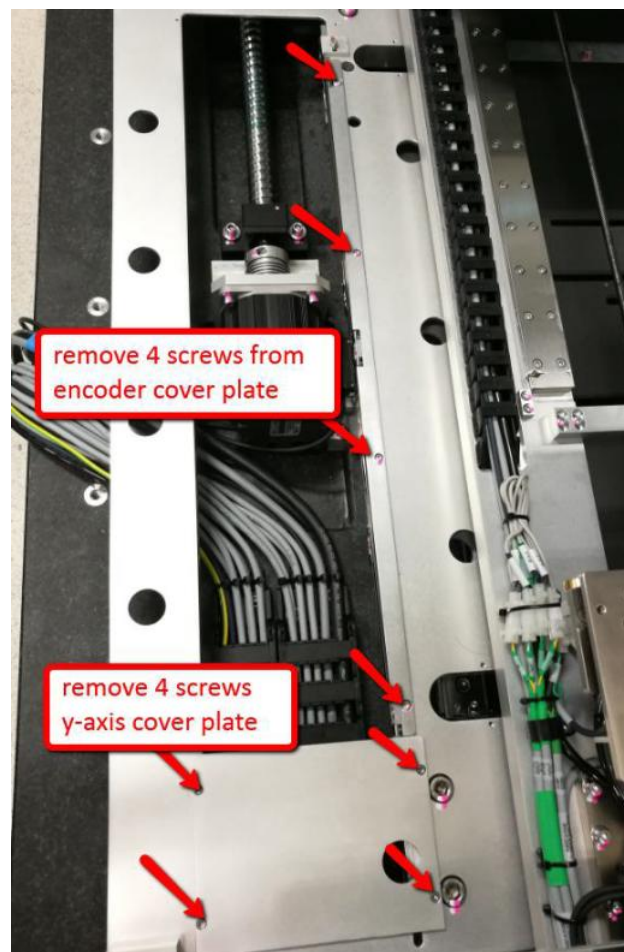

Figure 2 Screws removal
3. Unscrew screws as shown in Figure 2. Gentle remove y-axis cover plate and encoder cover plate from machine.